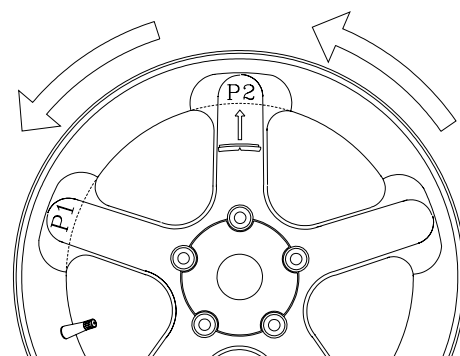

Figure 35
7. The display will read “**GET SPO 2**”. Locate the second closest spoke to top dead center and rotate the wheel to the top dead center position, press **P** button again to store the position. See Figure 35.